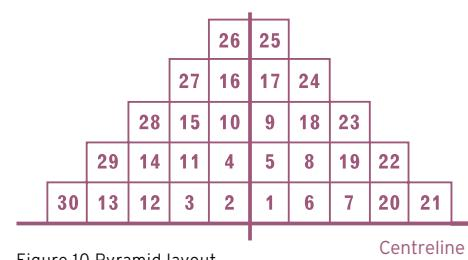

Figure 10 Pyramid layout
Construction of a pyramid should always start at the centre of the baseline, working in the same sequence as shown in Figure 10
- ▶ Lay the first pyramid of tiles from the centrelines, using the sequence shown in figure 10. Ensure a close bond is maintained at all times.